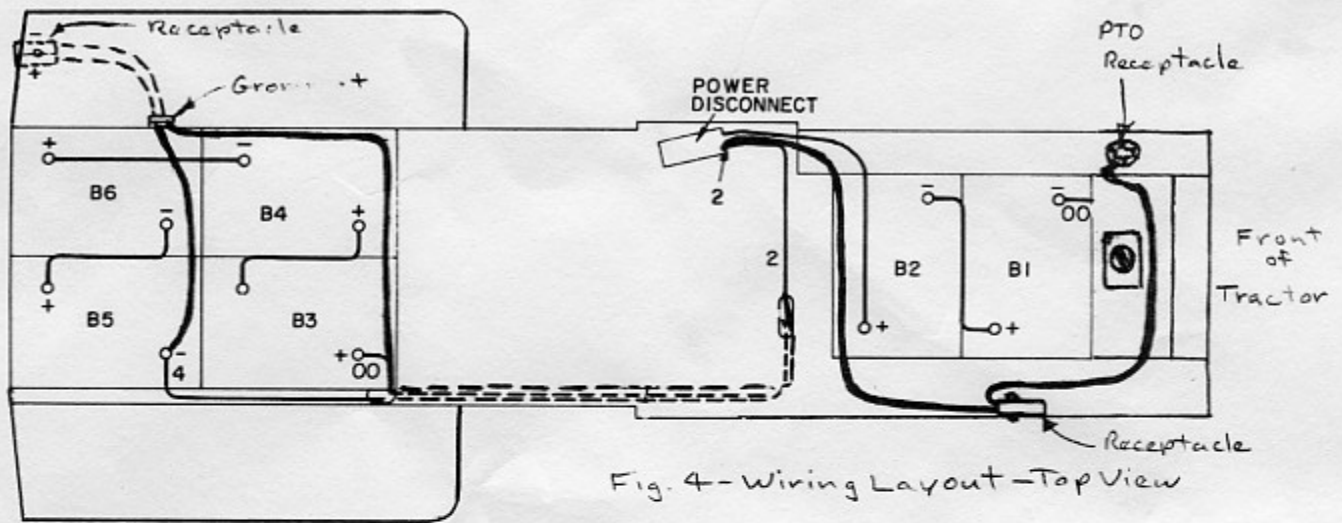

Fig. 4 - Wiring Layout-Top View
10. Replace batteries following layout shown in Figure 4 . DO NOT RECONNECT BATTERIES AT THIS TIME!
12. Reconnect batteries as shown in Figure 4 connecting the short receptacle wire to the clamp on the negative post of battery B5.